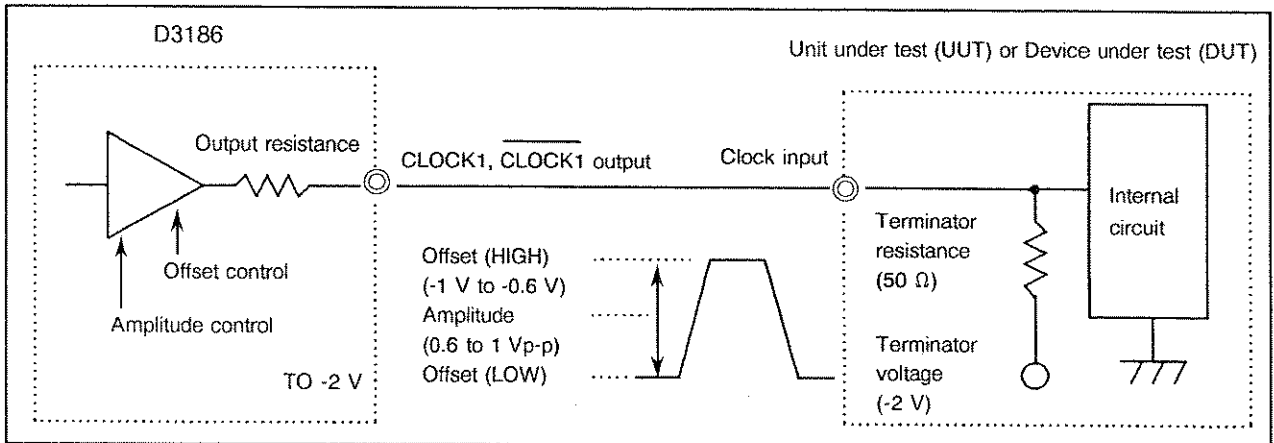

Figure 4-5 CLOCK1 and  $\overline{\text{CLOCK1}}$  Output, DC Connection, - 2 V Termination, ECL Level
- (b) When the terminator voltage of the UUT/DUT clock input is -2 V (see Figure 4-5.):